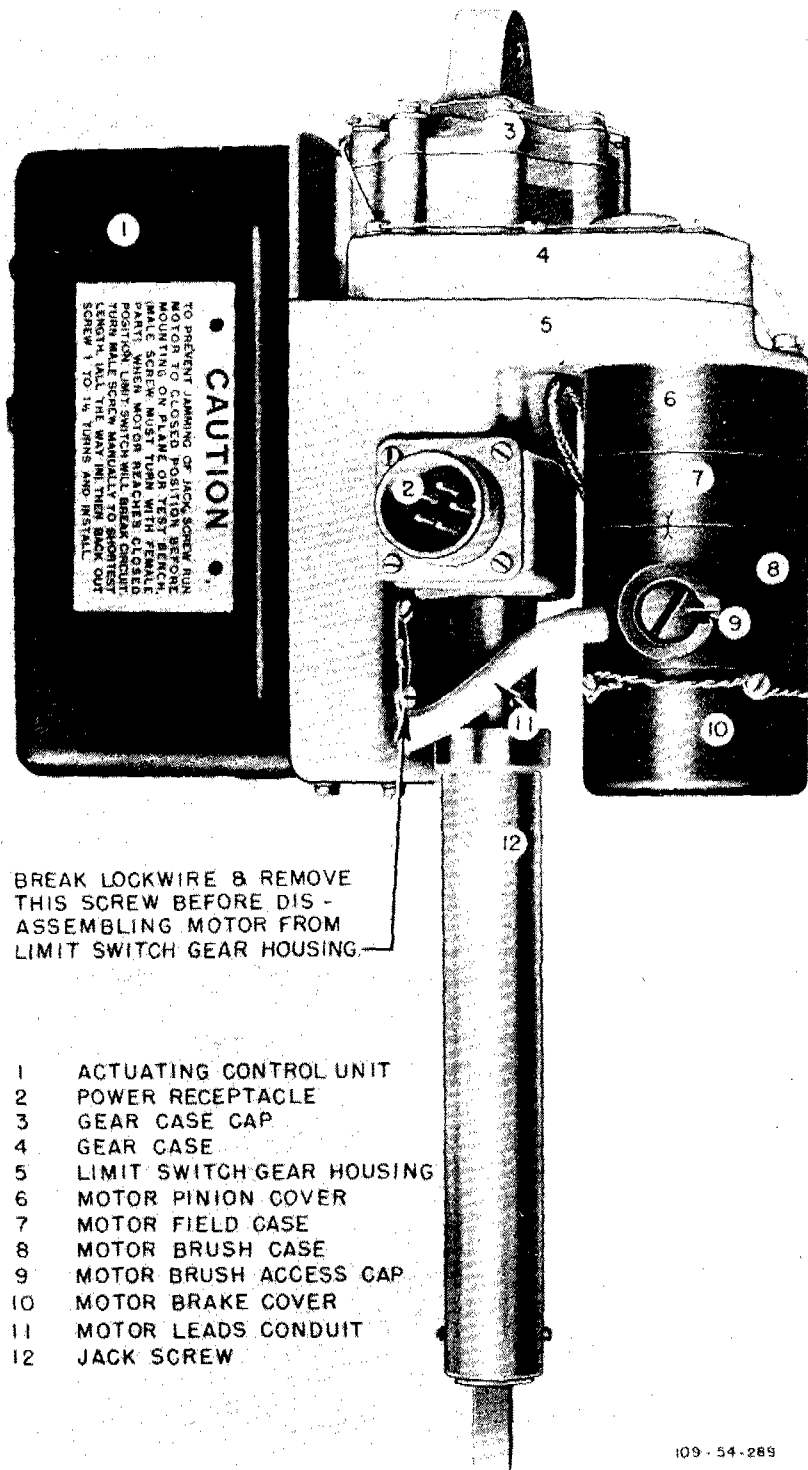
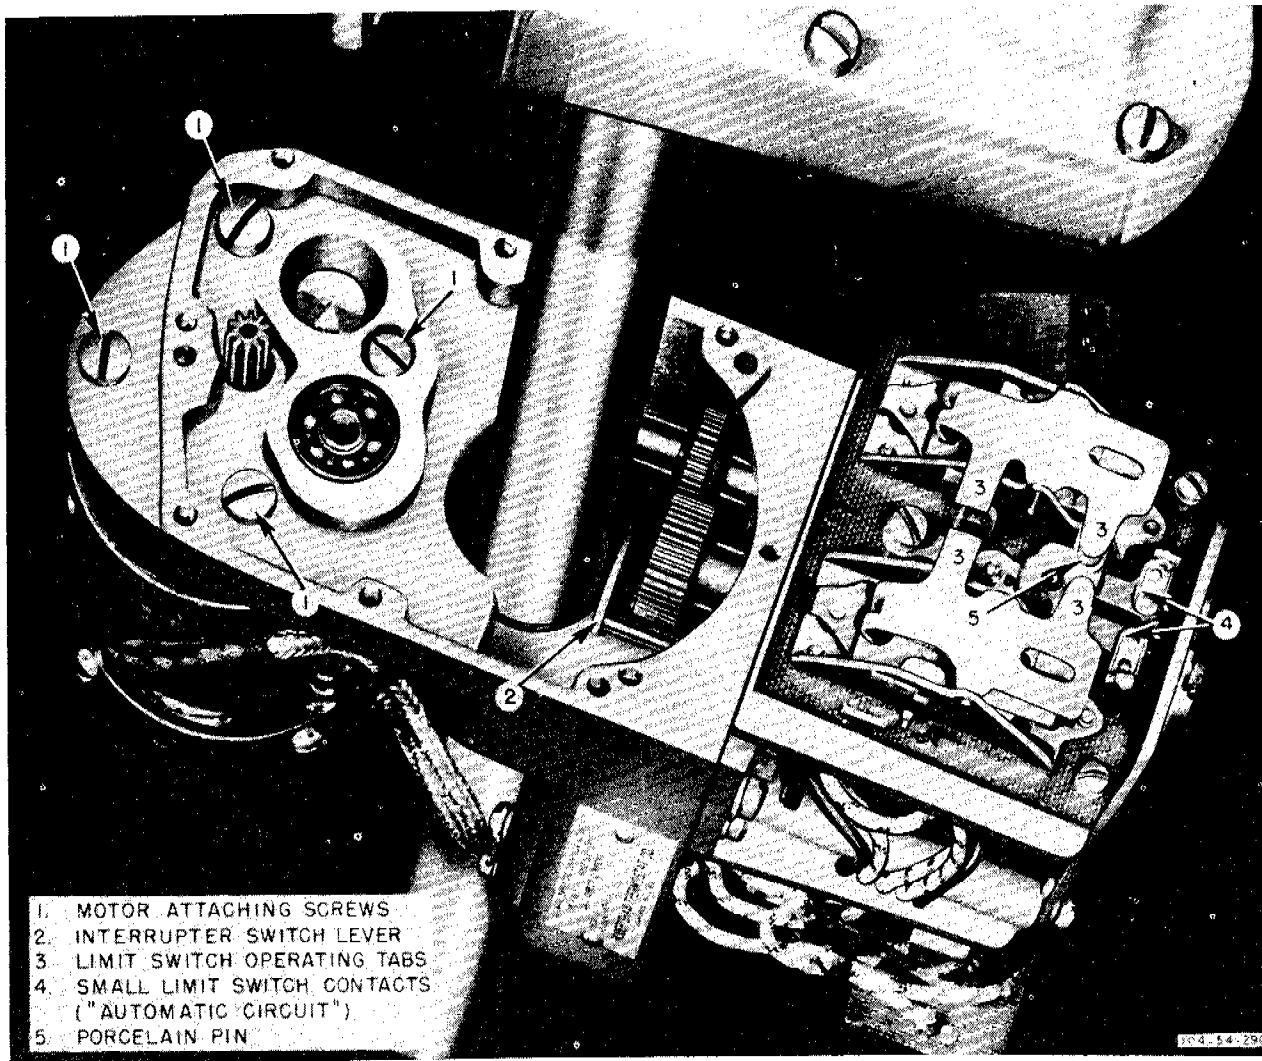
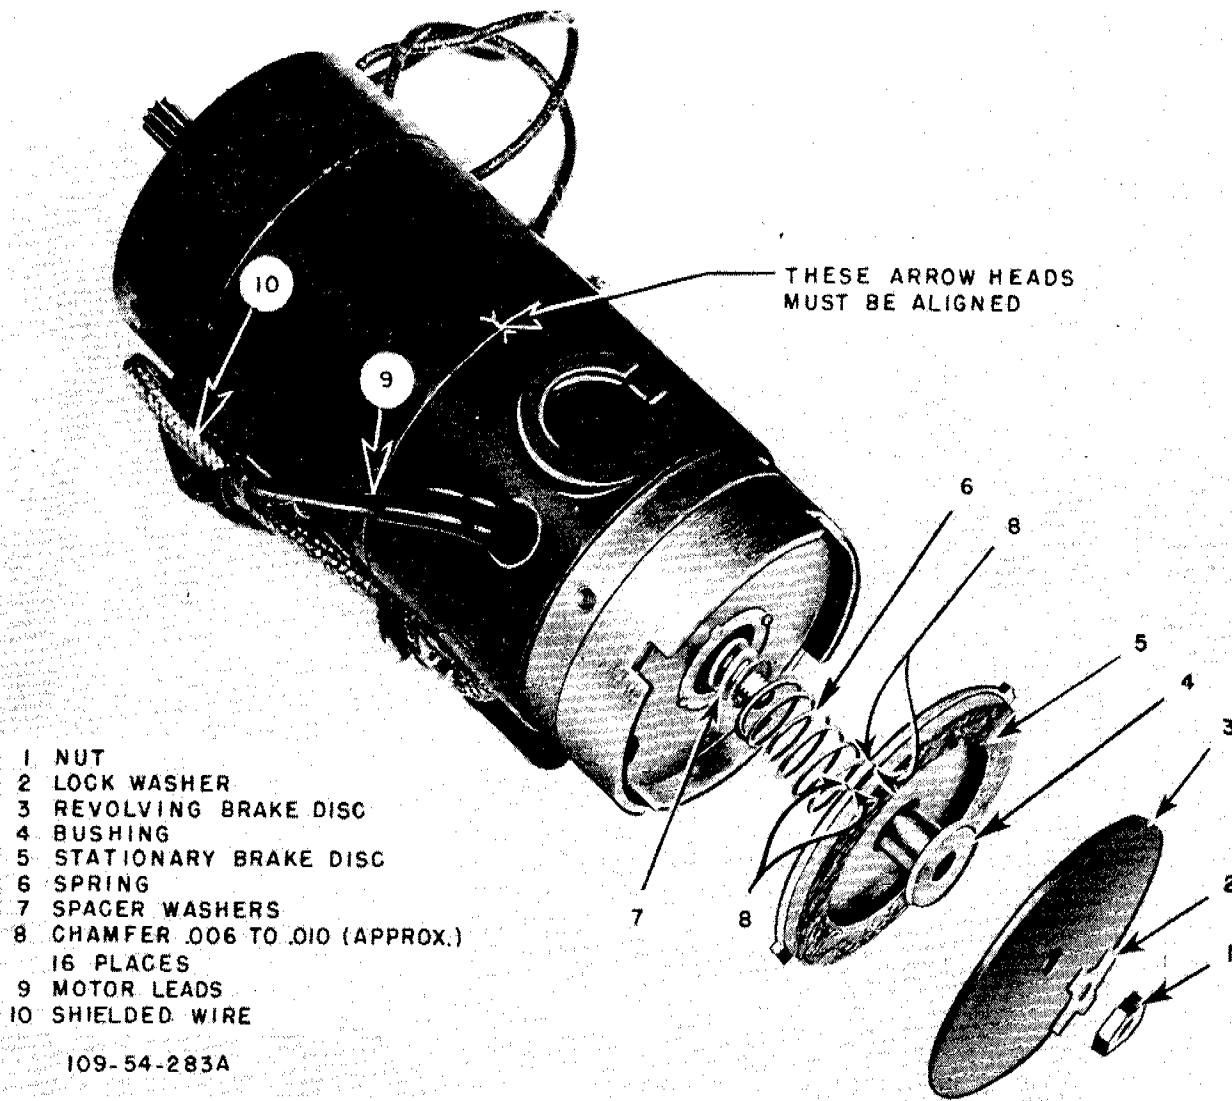
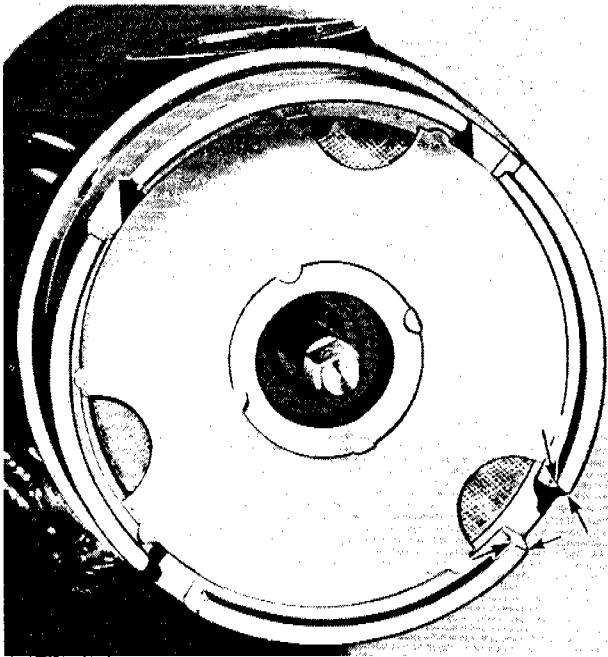

Figure 2
Figure 4 - Top View of Limit Switch Gear Housing
Figure 8 - Motor Brake - Exploded View
Figure 10 - Rework of Brake End of Motor Case
(2) Manually rotate the jackscrew to its greatest length by turning the drive end fitting (12, figure 2), and remove the eight lockwired screws holding the gear case to the limit switch housing (4, figure 2).
(3) Stand the unit upright, gear housing up, and bump the jackscrew gently against the bench top to separate the gear housing. Use a soft wood block or a felt pad to prevent damaging the clevis fitting. Be careful not to damage the gear case gasket while sliding the motor and gear case down the jackscrew. See figure 4 for results obtained by preceding procedure.
(4) Clean all the excess grease from the gear case and limit switch housing. After cleaning the grease from the gears, only a light film of grease should be left on the gear teeth. The grease can be removed
(5) See figure 2 for precautionary note, and remove the motor conduit retaining screw. Rotate the gear case and jackscrew to such a position that the motor attaching screws can be reached (1, figure 4), and remove the motor from the gear case.
(1) To insure free action of the motor brake, the four projections of the stationary brake disc (5, figure 8), and the four notches in the motor housing (figure 10) will be chamfered .006 to .010 inch as shown on figures 8 and 10.
(2) Before reassembling the motor brake, make certain that the brake spring, when compressed, fits loosely in the recess in the motor end housing. That is, the spring should not wedge or bind in the recess whatsoever.
(3) Thoroughly clean all grease from the brake discs and parts, and reassemble the motor brake in the sequence shown in figure 8.
(4) Check the brake clearance to insure proper and uniform clearance. Push in on each of the stationary disc projections in turn, compressing the brake spring. As each projection is compressed, check the clearance with a feeler gage. Rotate the motor disc 90 degrees and repeat the check. Rotate the disc 180 degrees from the first position and again repeat the
(1) Remove the three remaining screws holding the motor relay to the limit switch housing (figure 2), and lift the relay assembly away from the control unit as shown on figures 6 and 7.
(1) Mark the housing sections of the motor with alignment marks as shown on figures 2 and 3, and remove brushes if not already removed.
(2) Remove the motor through bolts.
(3) Separate the motor pinion cover from the motor, taking care not to lose the spacer washers inside the cover.
(4) Remove the motor brake cover (10, figure 2), and disassembly the motor brake as shown in figure 8.
(5) Remove the armature from the housing, pull the two bearings, and wipe excess grease from the bearings. Lay the bearings aside for reinstallation.
(6) Wipe all grease from the motor parts, submerge in a suitable solvent and wash thoroughly. Blow the cleaning fluid from the armature and fields, and dry with an air hose.
(7) Be certain to remove any grease or oil that might be in the motor conduit.
(8) Reinstall the two bearings and reassemble the armature in the motor housing. Do not reinstall the pinion cover or the brake assembly.
(4) It will be noted that the drilled head motor mounting screw is on the outside of the gear housing.
(5) Check the loose end of the shielded wire protruding from motor housing to insure against a short to ground.
(6) Make certain that the limit switch operating cam is still in its original position as shown in figure 1. It is very important that the cam does not move from this position when the gear case is reassembled. In addition, check to make certain that the cam on the jackscrew does not foul the interrupter switch lever (2, figure 4), as the case is closed.
(7) It should be noted that the limit switch cam setscrew must not be loosened at any time during disassembly or reassembly.
(8) Reinstall the housing screws and safety wire the screw heads.
(9) Check the control unit to insure that all parts are free of oil or grease. Special attention should be taken with all contacts.
(5) Now press the brake end of the motor shaft toward the motor, removing end play. A check of disc clearance in this position should give a minimum clearance of .002 inch. If the clearance between discs is too little or too great, add or remove washers (7, figure 8).